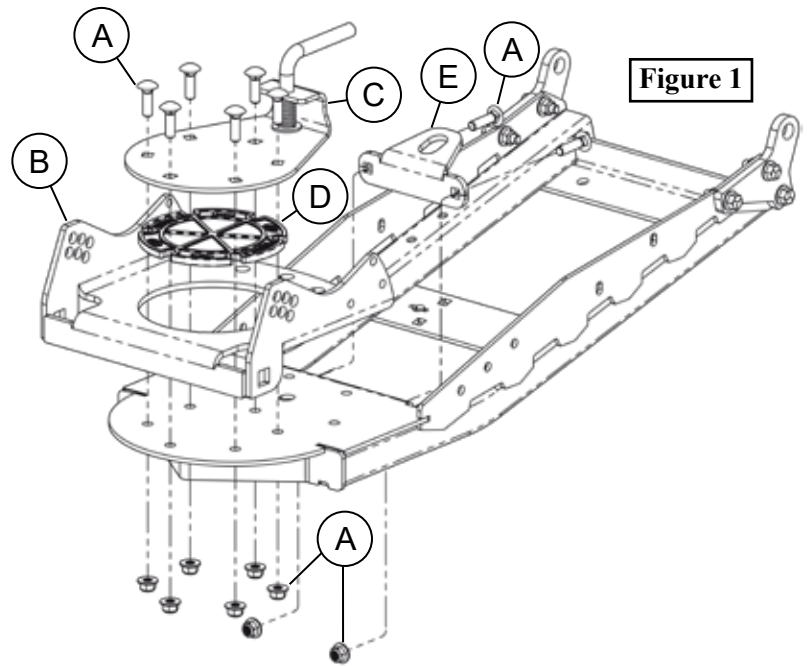

Figure 1
1. Verify template is to scale by measuring above line is EXACTLY 1 INCH. (See Figure 1).
1. Unbolt hardware (A) and remove cradle (B), Lift latch assembly (C), pivot bushing (D), cable hook bracket (E) shown in **Figure 1**.